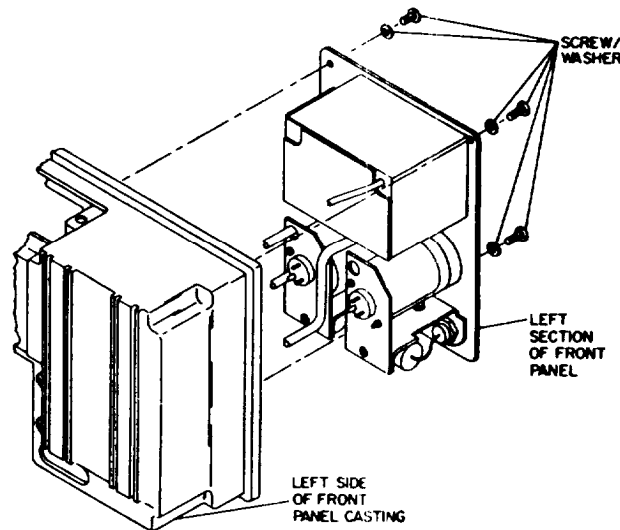
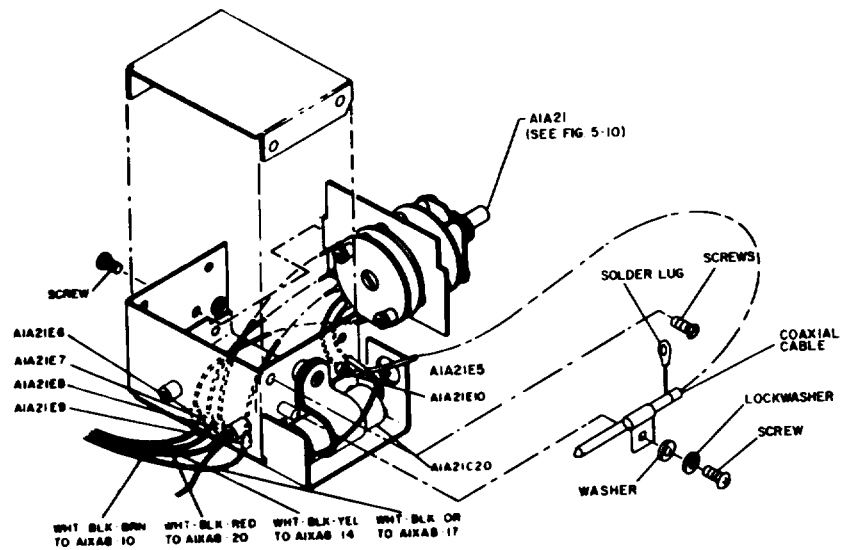

Figure 5-8. Left Section of Front Panel,
Figure 5-9. Left Section of Front Panel, Exploded View
g. ACCESS TO AF-RF AMPLIFIER A1A20, A CHANNEL VARIABLE ATTENUATOR A1A21, B AND C CHANNEL VARIABLE ATTENUATOR AND TRIGGER LEVEL CONTROLS A1A22 and A1A23, B AND C SLOPE SWITCHES A1S10, AND A1S12, MODE SELECTOR SWITCH A1S9, AND CONNECTORS A1J1, A1J2, A1J3, A1J4, AND A1J5. -- These attenuator assemblies and parts are mounted on the left section of the front panel, and become accessible when the left section of the front panel is removed from the chassis (figure 5-8). To remove the left section of the front panel, remove the three screws (one at the bottom and two at the top), then slide it slowly forward and out of the chassis.
- (1) Perform the procedure of paragraph 5-5g to gain access to A1A20.
- (2) Remove and save the two screws, washers, lockwashers, spacer, and solder lug that mount A1A20 to A1A21 (figure 5-9).
- (3) Disconnect the coaxial lead from the component side of A1A20. Code-mark coaxial cable to insure proper reassembly.
- (4) Disconnect the red, white, and black leads and shield of the cable and teflon-sleeved bus wire from the circuit side of A1A20. Code-mark leads to insure proper reassembly.
- (5) Orient replacement A1A20 such that the component side faces A1A21.
- (1) Perform the procedure of paragraph 5-5g to gain access to A1A21.
- (2) Unsolder the lead of capacitor A1A21-c 20 from connector A1J1 (figure 5-9).
- (3) Remove and save the nut and lock washer that mount connector A1J1, and remove A1J1.
- (4) Remove and save the four screws that secure the cover of A1A21. Note the position of the ground lug under one screw. Remove and save the cover of A1A21.
- (5) Loosen the two set screws of knob A1M14 and remove the knob.
- (6) Remove and save the mounting nut, lock washer and flat washer that secure the shaft of A1A21 to the left section of the front panel.
- (7) Remove and save the screw and associated hardware that secure the case of A1A21 to the left section of the front panel.
- (8) Unsolder the teflon-sleeved lead that connects A1A21 to A1A20. Mark the connecting point on A1A20 to insure proper reassembly.
- (9) Unsolder the white-black-brown, white-black-red, white-black-orange, and white-black-yellow leads from the inside of terminals E6 thru E9. Code-mark leads to insure proper reassembly.
- (1) Perform the procedure of paragraph 5-5g to gain access to A1A22.
- (2) Remove and save the screw that mounts A1A22 to its bracket (figure 5-9).
- (3) Loosen the two setscrews on the red knob A1MP8 and remove the red knob.
- (4) Loosen the two setscrews on the black knob of A1A22, A1MP11 and remove the black knob.
- (5) Remove and save the nut and washer that secure the outer shaft of A1A22 to the left section of the front panel.
- (6) Disconnect the white-red-yellow, white-red-green, and white-red-blue leads from the three terminals at the back of A1A22. Code-mark leads to
(1) Perform the procedure of paragraph 5-5g to gain access to A1A23.
(2) Remove and save the screw that mounts A1A23 to its bracket (figure 5-9).
(3) Loosen the two setscrews on the red knob A1MP9 and remove the red knob.
(4) Loosen the two setscrews on the black knob A1MP12 and remove the black knob.
(5) Remove and save the nut and washer that secure the outer shaft of A1A23 to the left section of the front panel.
(6) Disconnect the white-orange-yellow, white-orange-green, and white-orange-blue leads from the three terminals at the back of A1A23. Code-mark leads to insure proper reassembly.
(7) Disconnect the center conductor of one coaxial cable from the common terminal of wafer B,